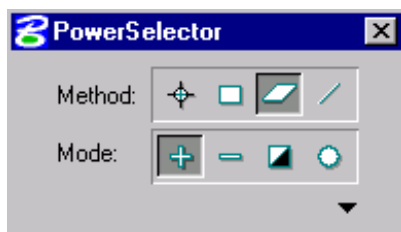

Figure 3-43: Power Selector set to shape
**Using the Power Selector** - The *Power Selector* works well for selecting single or multiple text blocks because of the various selection methods. You can also add and subtract from your selection set easily. Choose *Shape* method and choose the “+” in the mode field (Figure 3-43).